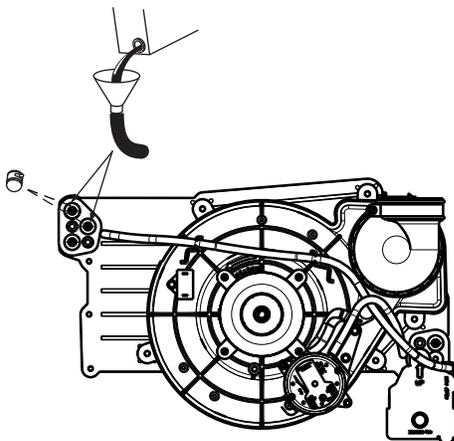

Fig. 63 – Priming Condensate Trap
1. Remove upper and middle collector box drain plugs opposite of the condensate trap. See Fig. 63.
2. Connect field-supplied 5/8-in. (16 mm) ID tube with attached funnel to upper collector box drain connection. See Fig. 63.